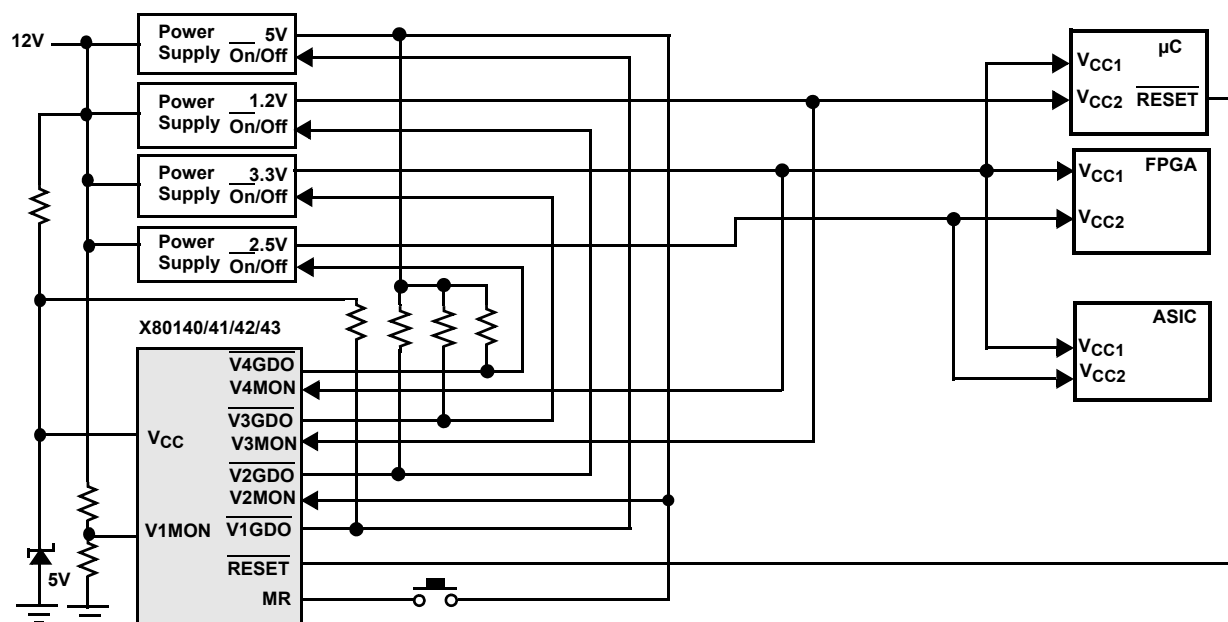
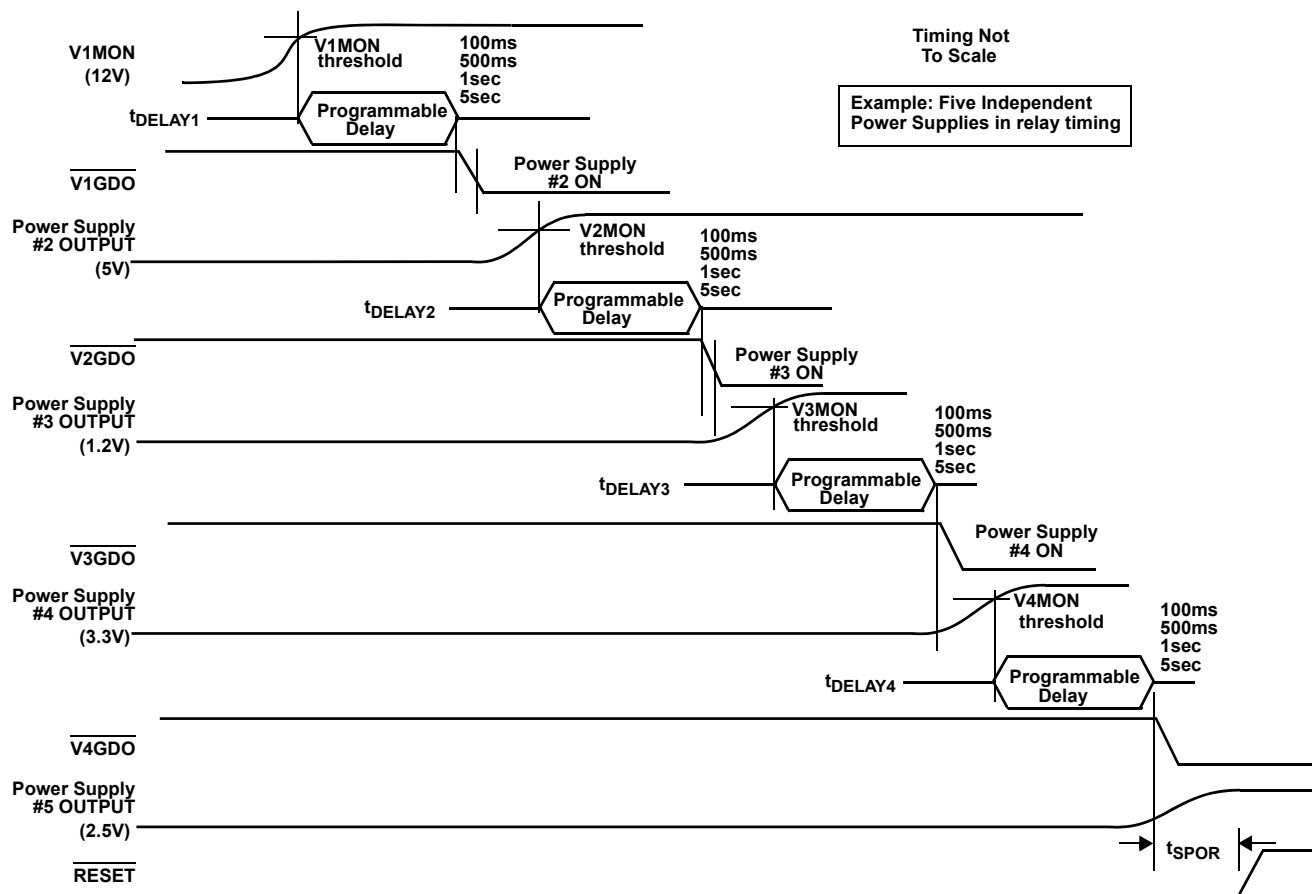

FIGURE 9. EXAMPLE OF RELAY POWER SUPPLY SEQUENCING
FIGURE 10. RELAY SEQUENCING OF DC-DC SUPPLIES (TIMING)
4. Power Up of Supplies Via Relay Sequencing Using Voltage Monitors (see Figure 10 and Figure 9).